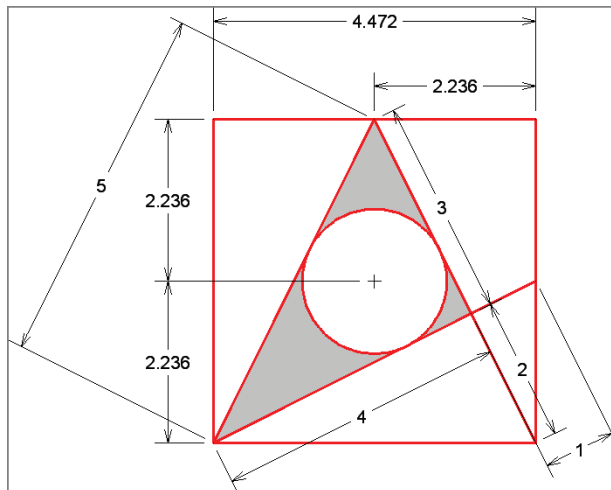

FIGURE 11.17 Adding additional aligned dimensions
9. Add the four additional aligned dimensions shown in Figure 11.17 measuring 1, 2, 3, and 4 units.